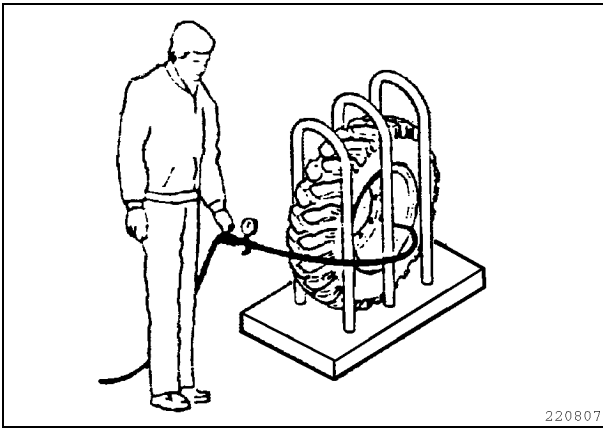

Fig. 1
- Fit self-locking nozzle of inflating equipment onto tyre valve (Fig. 1).